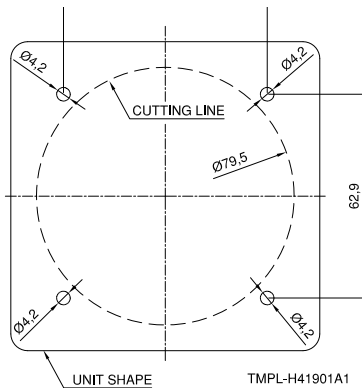

Figure 4
**IMPORTANT:** Make sure you respect the screw length formula to avoid damaging the plastic of the Ultra. Use light thread locker to prevent screw loosening with vibration. Use the Cutting template, included in the box, to cut out the panel. (see Figure 4)